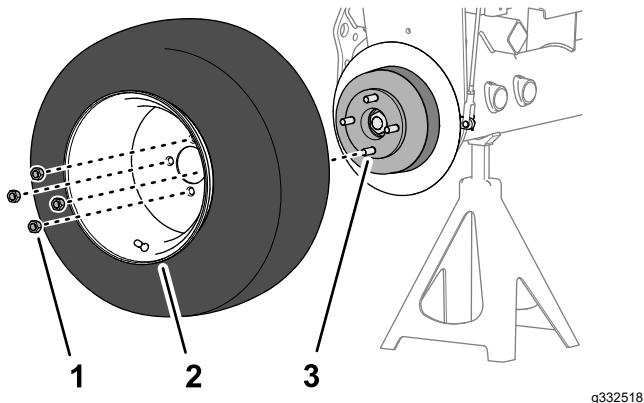

Figure 75
- 1. Assemble the wheel to the hub with the 4 lug nuts (Figure 75), and tighten the lug nuts by hand.